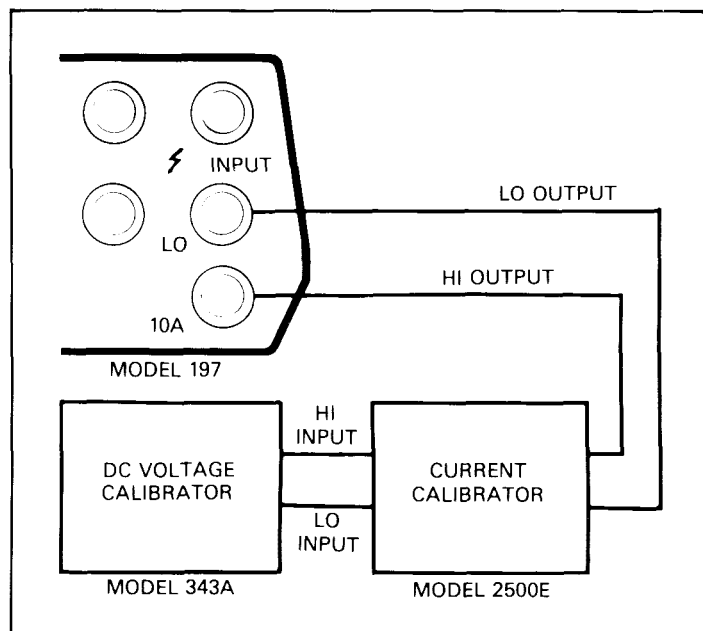

Figure 3-6. Connections for DC Current Verification (2000mA to 20A)
8. Set the Model 197 to the 10A range. Connect the DC current to the 10A and LO terminal as shown in Figure 3-6.